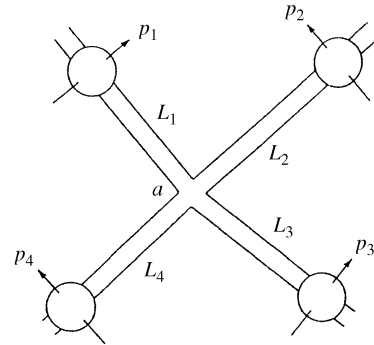

Fig. P6.129
6.129 In Fig. P6.129 all four horizontal cast-iron pipes are 45 m long and 8 cm in diameter and meet at junction a , delivering water at 20°C. The pressures are known at four points as shown: